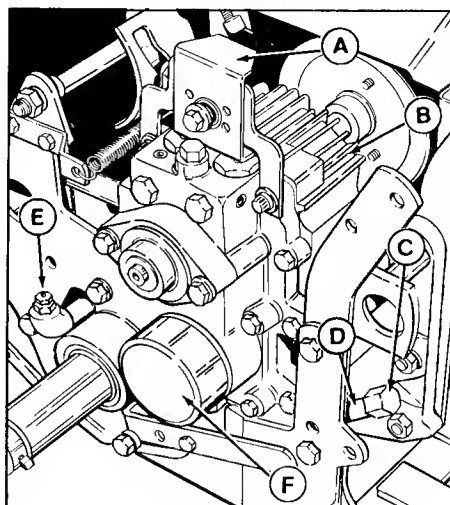
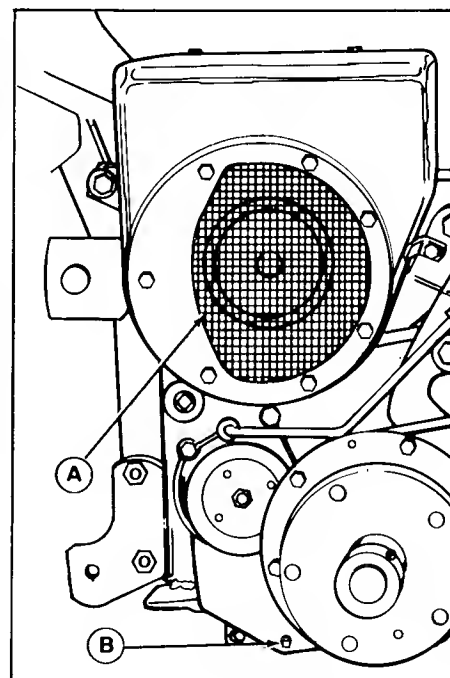

Figure 9. Hydrostatic Transmission
Figure 10. Hydrostatic Transmission
1. The tractor must be on a level surface and the free wheeling latch (A, figure 9) must be completely down.
2. Wipe the transmission fill cap (C) and fill tube (D) clean. Remove the cap (C).
3. Lift and hold the relief valve (E) open.
The filter is shown in figure 9. On early models, filter is mounted underneath transmission. Replace the filter every 400 hours of operation or whenever changing transmission fluid. Transmission fluid should be changed only when performing repair work on transmission or hydrostatic unit or if it becomes discolored from overheating.
1. With hydrostatic transmission fluid hot, park tractor on level ground, place transmission control lever in neutral, place any PTO clutch levers in the disengaged position, engage parking brake, and stop engine. Press free wheeling latch (figure 9) down firmly to disengage the hydrostatic pump.
2. Remove hydrostatic transmission drain plug (B, figure 10) from lower right hand side. Remove dirt from around the fill cap (C, figure 9) and loosen cap to permit air to enter transmission.
5. Remove the fill cap (C, figure 9) and clean dirt away from the relief valve (E). Using a clean funnel, add Simplicity Multi-Purpose Hydraulic/Transmission Oil, Type F transmission fluid, or Deutz-Allis Power Fluid 821 into the fill tube while holding the relief valve up until fill tube will accept no more fluid. Replace the fill tube hand tight.